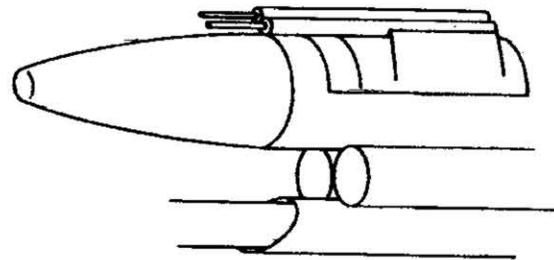

Fig. 36
**A** Using contact cement, glue two Laser Cannons in place on the Cruiser Vehicle Laser Turret (Fig. 36).